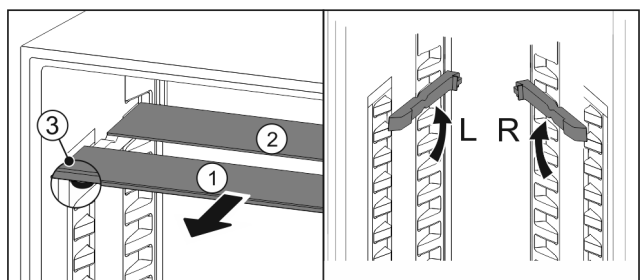

Fig. 34
- ▶ Pull the glass panels out Fig. 34 (1) from the front, one at a time.
- ▷ The glass panel *Fig. 34 (1)* and trim strip are at the front.
- ▷ The stops *Fig. 34 (3)* point down.